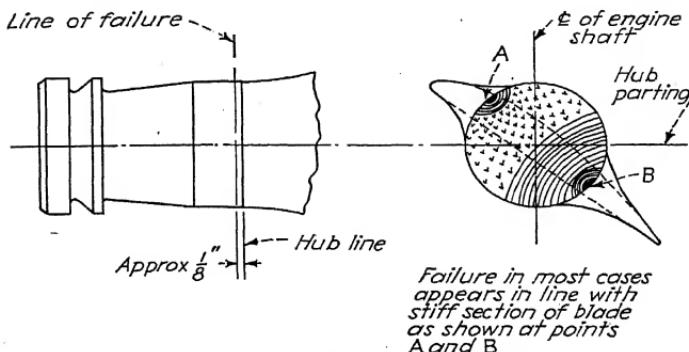

Fig. 44.—Location of typical blade-shank failure.
*Blades Found to Be Repairable.*—Blades found repairable should be etched from the tip to the shank section in caustic soda and cleaned in nitric acid; they should be polished after etching. The shank portion of the blade should be etched only at points A and B as indicated on Fig. 44. Care should be used to remove all traces of this local etch by polishing. Any suspected cracks in the blade section should also be given a local etch and again examined. Any cracks are cause for rejection.